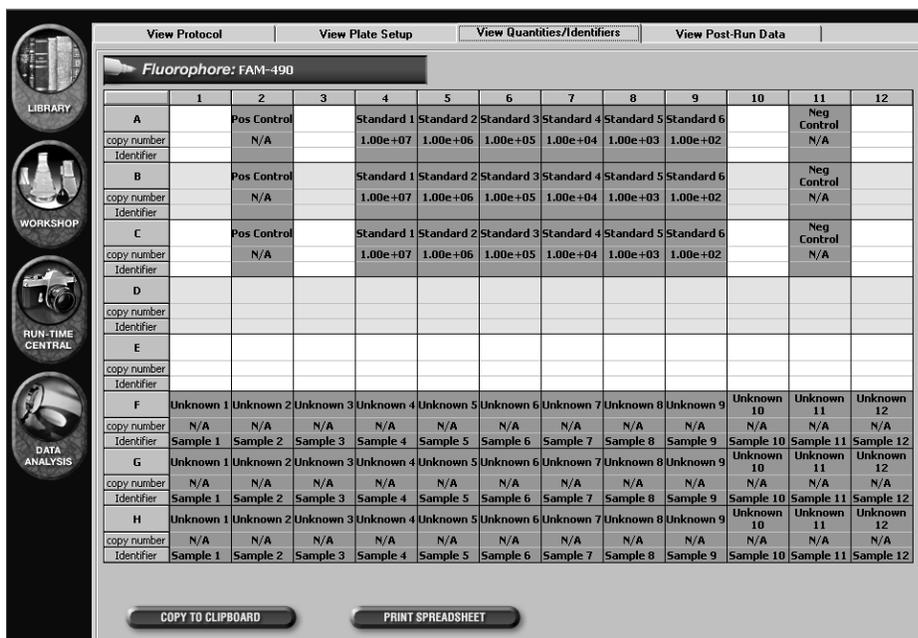

Fig. 4.4. Library / View Quantities/Identifiers window.
- **View Quantities/Identifiers:** Displays the layout and information of the plate setup file currently selected in the **View Protocol** window. (see Figure 4.4).